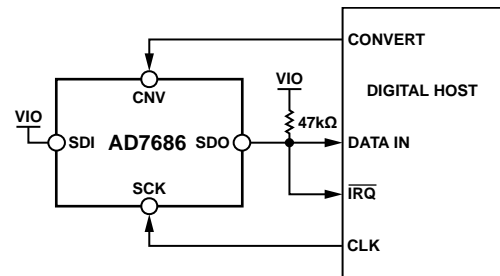
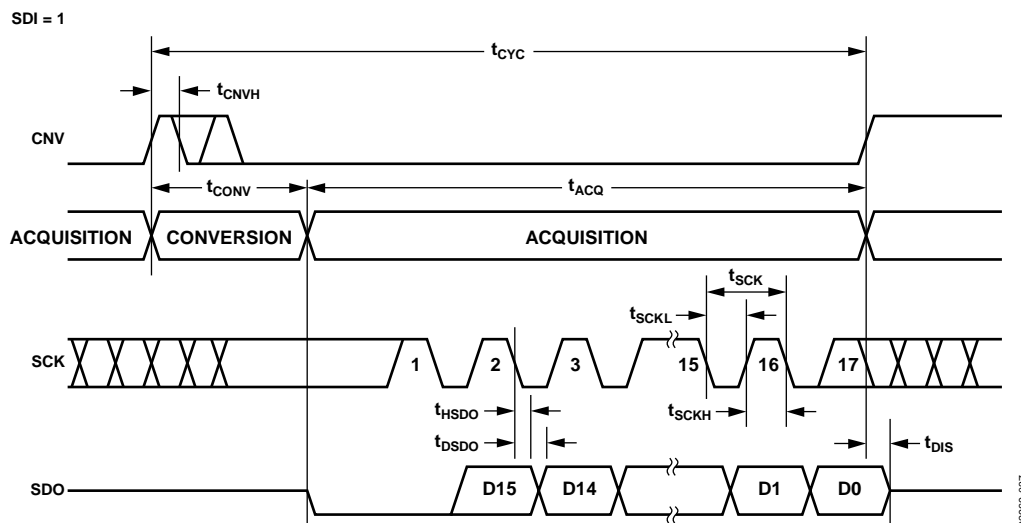
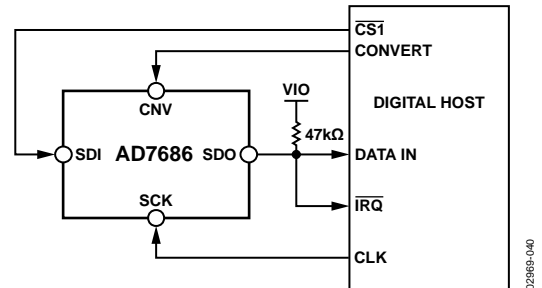
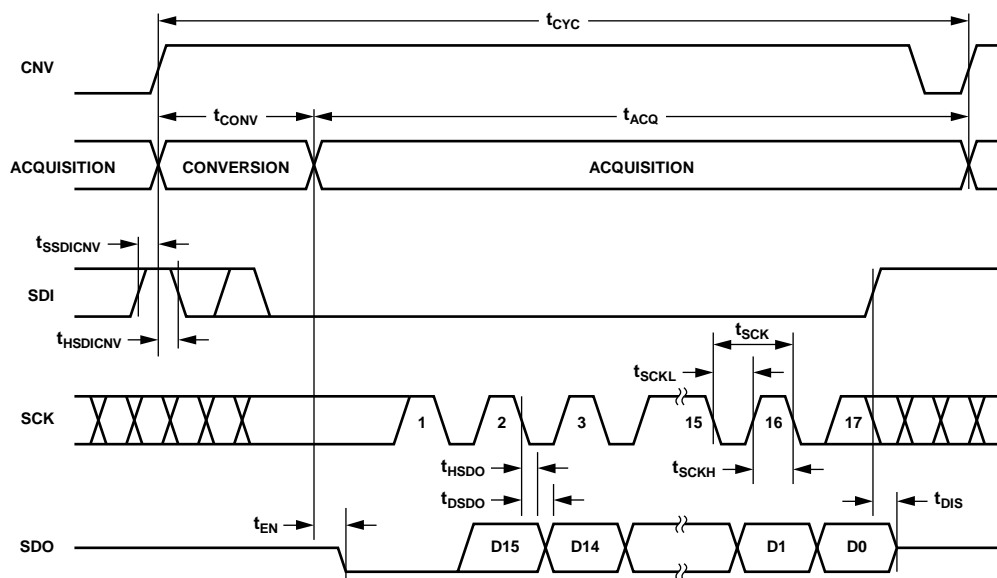

Figure 35. CS Mode 3-Wire with Busy Indicator Connection Diagram (SDI High)
Figure 36. CS Mode 3-Wire with Busy Indicator Serial Interface Timing (SDI High)
Figure 39. CS Mode 4-Wire with Busy Indicator Connection Diagram
Figure 40. CS Mode 4-Wire with Busy Indicator Serial Interface Timing
- In \overline{CS} mode, if CNV or SDI is low when the ADC conversion ends (see Figure 36 and Figure 40).
This mode is generally used when a single AD7686 is connected to an SPI-compatible digital host having an interrupt input. The connection diagram is shown in Figure 35, and the corresponding timing is provided in Figure 36.
This mode is usually used when a single AD7686 is connected to an SPI-compatible digital host, which has an interrupt input, and when it is desired to keep CNV, which is used to sample the analog input, independent of the signal used to select the data reading. This requirement is particularly important in applications where low jitter on CNV is desired. The connection diagram is shown in Figure 39, and the corresponding timing is provided in Figure 40.